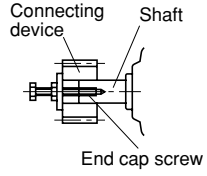

Fig.22
- Thermal shrinking or end cap screws are recommended for mounting (Fig.22).